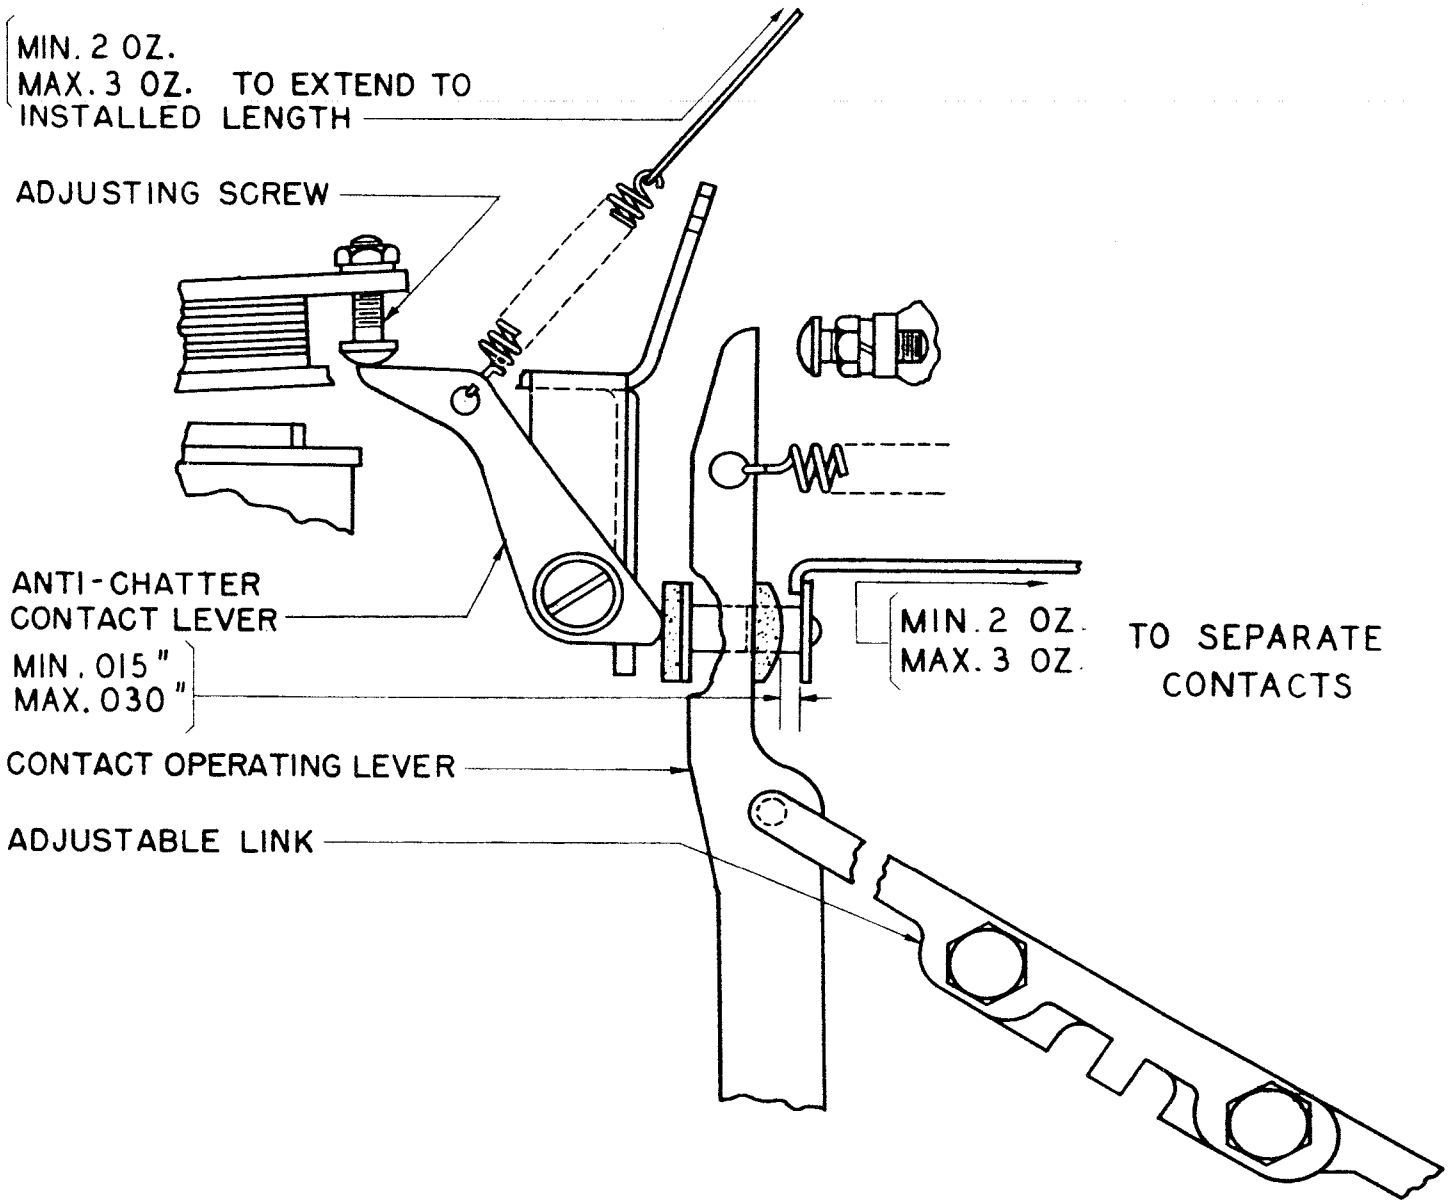

Figure 36
- 3.25 Antichatter Contact Lever upper surface should be approximately horizontal when the punch-magnet armature lever is resting on the left stop. See Figure 36.
Note: Figures 36 and 37 show new-style antichatter contact mechanism used with adjustable key-pressure mechanism. Old-style mechanism is essentially the same except the antichatter contact-lever spring is vertical and contact-operating-lever backstop is a bracket instead of a screw.
(a) On units equipped with the adjustable key-pressure mechanism the tension should be minimum 2 ounces, maximum 3 ounces when the punch-magnet armature is in its unoperated position. See Figure 36.
- 3.27 Punch - magnet Control - contact Right Spring should clear the operating lever by minimum 0.015 inch, maximum 0.030 inch when the punch-magnet armature is in its unoperated position and the keylever (including space key-lever) which gives the punch-magnet control-contact operating lever the least amount of travel is fully depressed. See Figure 36.
To Adjust: On units having an adjustable link, first center the punch-contact bracket approximately in its elongated mounting holes and shorten or lengthen the adjustable link by slightly loosening the two clamping screws and prying the link sections. See Figure 36.
- 3.28 Punch-magnet Control-contact Left Spring should press against the antichatter contact lever with a force of minimum 2 ounces, maximum 3 ounces when the punch-magnet armature is in its unoperated position. See Figure 36.